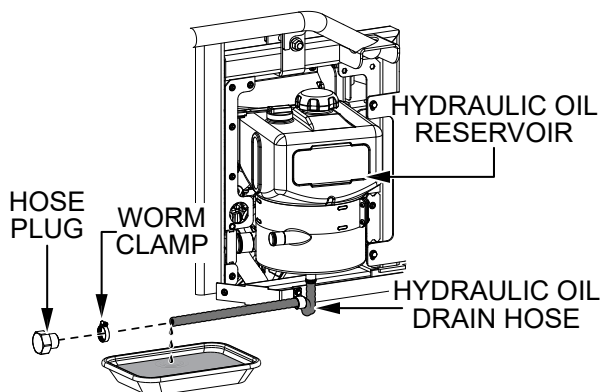

Figure 66. Draining The Hydraulic Oil
1. Locate the hydraulic oil drain hose (Figure 66) attached to the bottom of the hydraulic oil reservoir.
3. Remove the worm clamp and plug (Figure 66) from the end of the hydraulic oil drain hose and allow the hydraulic oil to drain completely from the reservoir.